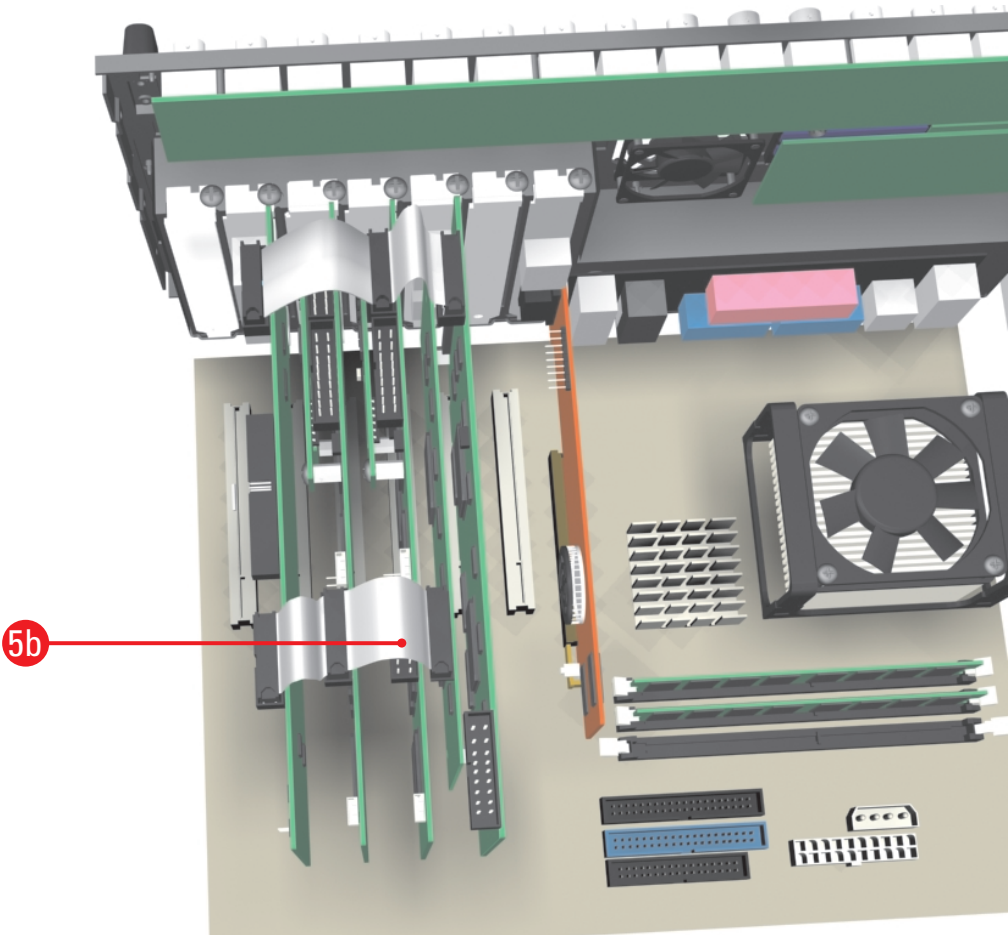

Figure 14. Secondary Capture Card Video Input Cable
- b. Connect the front video input ribbon cable from the secondary capture card to the connector on the daughter board of the DX8000-MUX16. Refer to Figure 14.